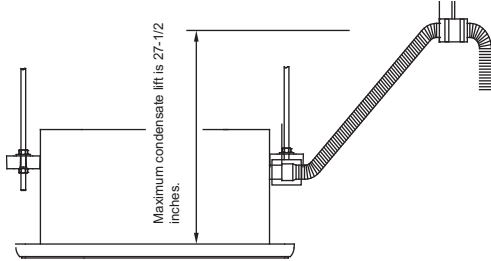

Fig. 24 —Connecting Water Discharge Pipes
- The highest point in the condensate piping should be as close to the unit as possible. See Fig. 24 and 25.